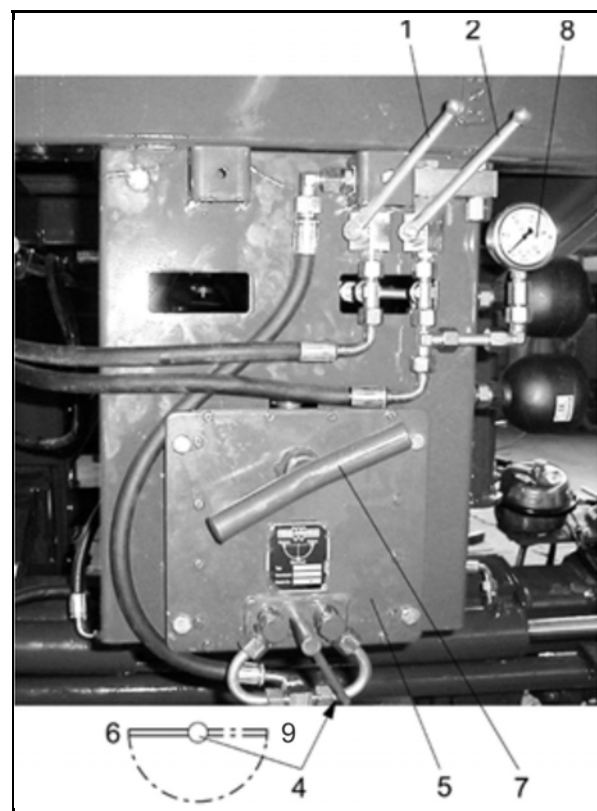

Fig. 45
Fig. 45 shows closed stop-cocks.
1. Check the oil level of the hydraulic hand pump (1 or Fig. 45/5) via the filler neck, e. g. by means of a steel measuring tape.
9. Swivel the valve (Fig. 45/4) of the hydraulic hand pump (5 or Fig. 45/5) to "Lift" position.
10. One person now actuates the hand lever (Fig. 45/7) of the hydraulic hand pump (5 or Fig. 45/5).
12. Close both stop-cocks (2).